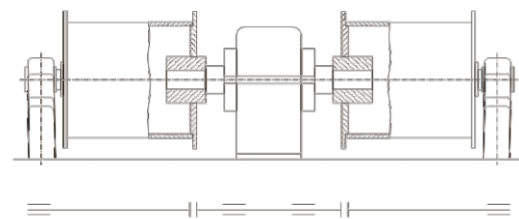

Fig.1 Diagram of a twin-drum drive without built-in joint
2. When the gear shaft is connected to hoisting drum with single or twin drive, three or four point mounting is required for a crane unit. Fig 1 and 2 show the arrangement of a drum drive of a crane assembly. These types of connection.